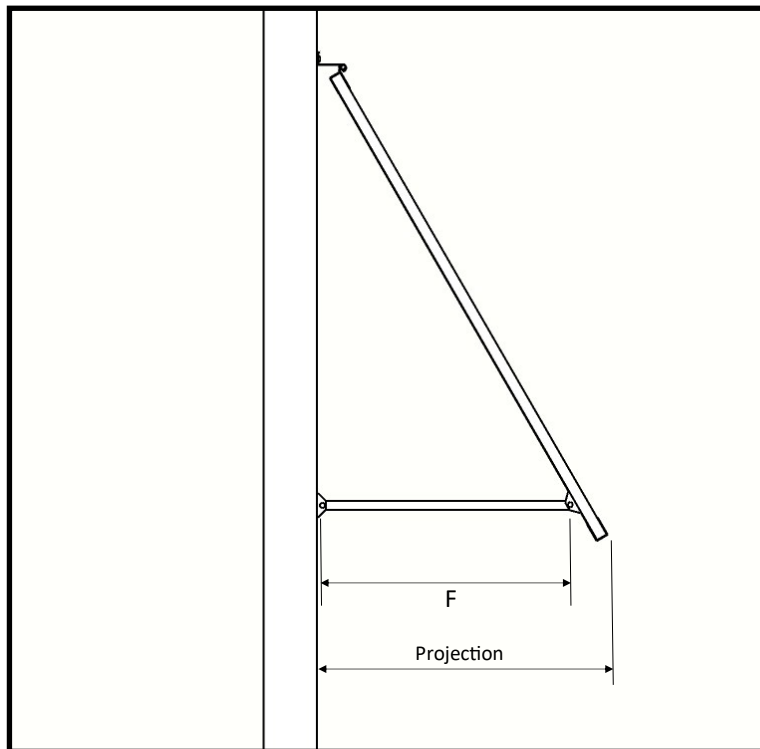

Fig 2
7. Measure the distance from center of Kicker Bar Brkt hole to Kicker Bar Brkt hole. (dimension "F", see fig 2)